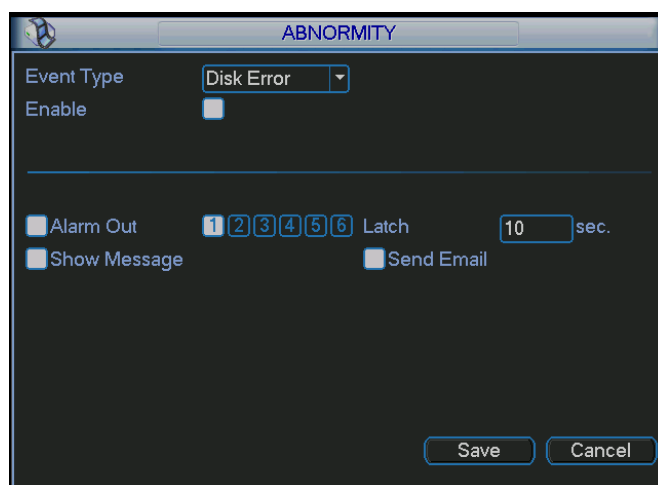

Figure 6-81
- Alarm set: Click alarm set button, the interface is shown as below. See Figure 6-81. (This interface is just like the abnormality setup). Please refer to chapter 6.7.2 for detailed information.